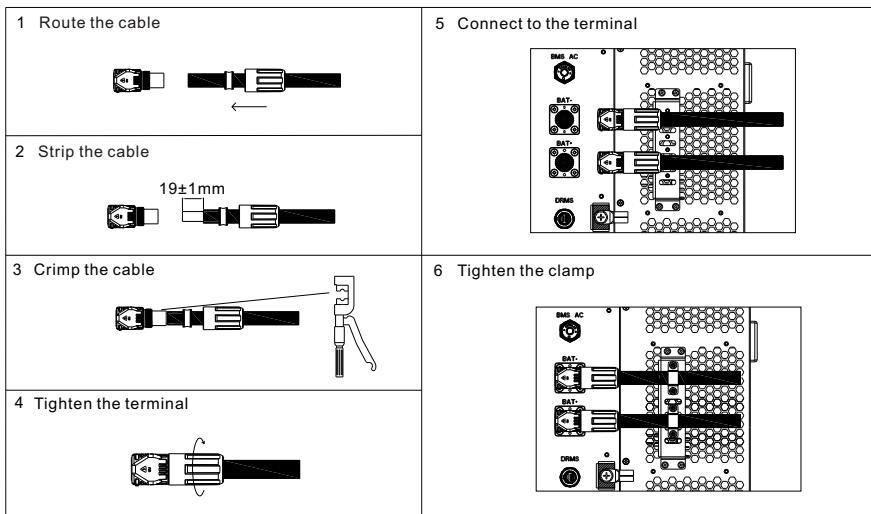

Fig 6.6 Position of the battery terminals
1. Connect the ground cable to the battery power ground bar, as shown in Fig 6.6;
4. Connect the battery cables to the battery terminals on the inverter, as shown in Fig 6.6;
5. After connecting the main battery power cables, bind power cables at the reserved position, as shown in Fig 6.6.
1. Connect the ground cable before connecting the battery cable; the ground point is shown in Fig 6.6.